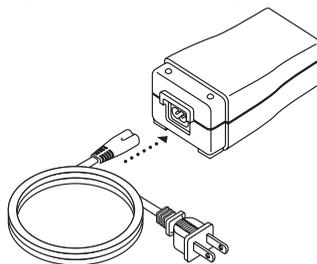

FIGURE 3–5 CONNECTING THE POWER CORD TO THE POWER SUPPLY
1. Plug the socket end of the AC power cord into the power supply, as shown in Figure 3–5.